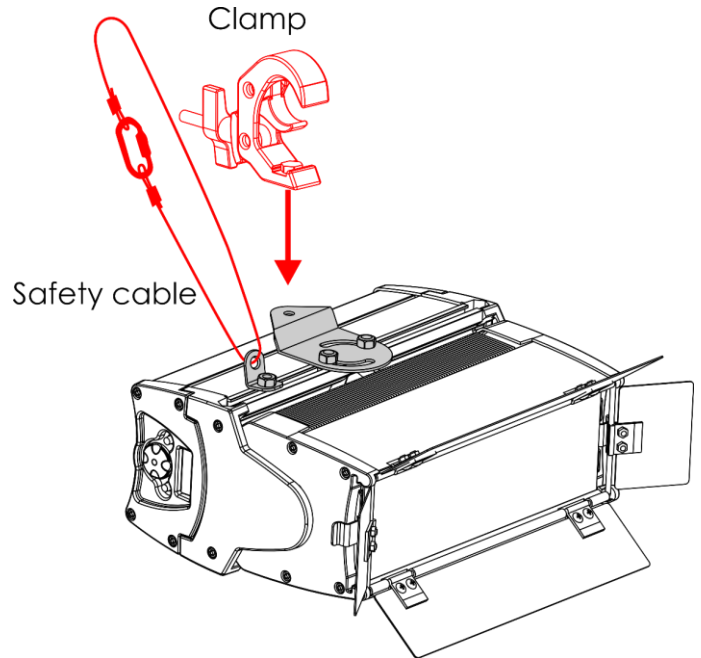

Fig. 10
- 05) Install the clamp, as shown in Fig. 10. Make sure that you use a clamp suitable for attaching the device to a truss.
- 07) Secure the device with the delivered safety cable. If possible, the safety cable should be attached to a supporting structure independent of the primary suspension. Put the safety cable through the opening on the safety bracket, as shown in Fig. 10.